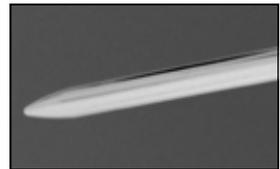

FIGURE 1
1. One end of each Extension Rod has a threaded end. Attach a Penetration Rod to the threaded end (Fig. 1). (Figures from LTF100 TI)